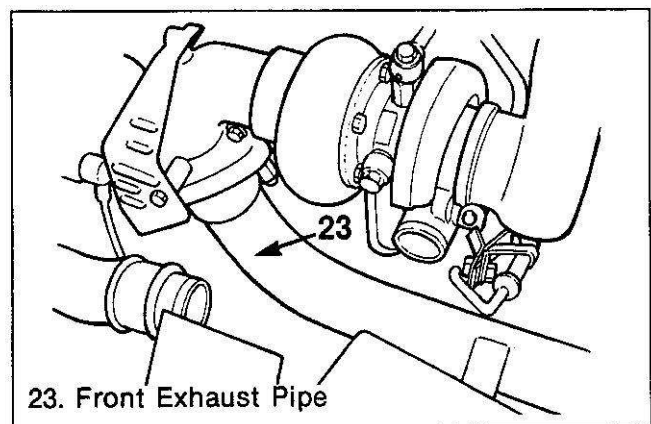

Figure 10. Exhaust Pipe Attachment
- 26. Front exhaust pipe (23) (figure 10).